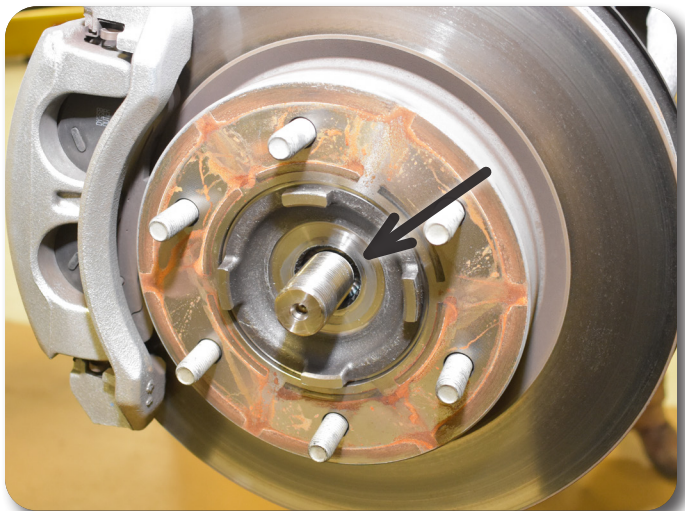

Figure 4
8. Remove the CV retaining nut. Save nut. Figure 4